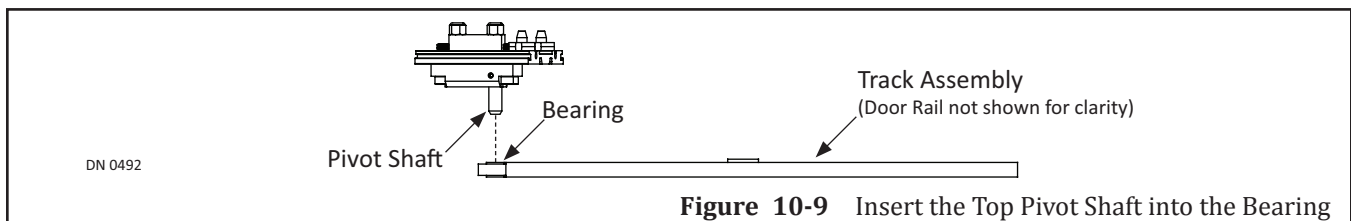

Figure 10-9 Insert the Top Pivot Shaft into the Bearing
13. Slide the Track towards the Pivot Stile or away from the Pivot Stile until the Bearing is centered to that measurement. Please see Figure 10-9.
15. Secure the Track to the Web with (1) 1/4 inch Star Washer and (1) 1/4-20x1-1/4 inch Socket Head screw. Tighten but do not overtighten. The Socket Head screw may need to be loosened one more time.